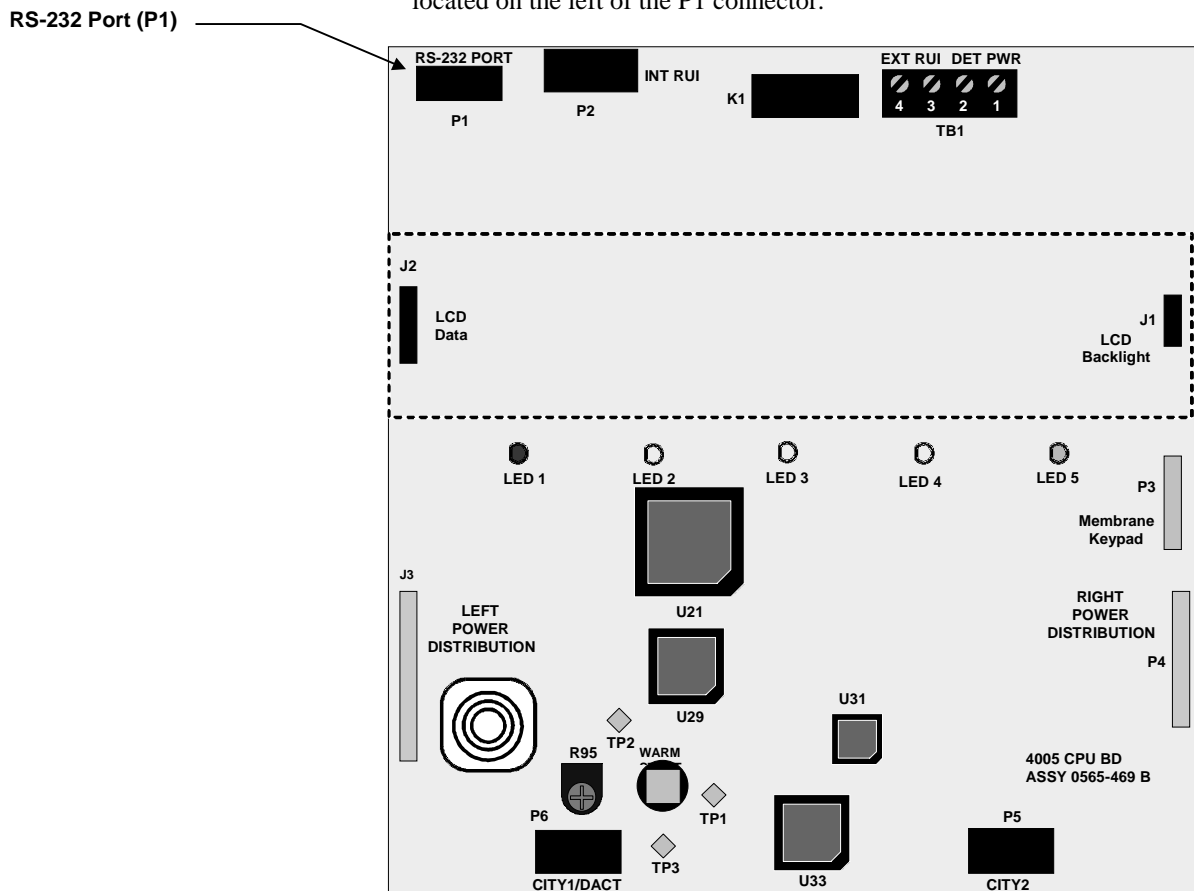

Figure 1. 4005 Base Panel
Use Steps 1 through 4 and Figure 1 to configure the 4005 FACP and PC to use the PC Interface program.
3. Connect the 733-794 download cable from the available COM port of the PC to the RS232 port (P1) of the 4005 CPU (shown in Figure 1). The colored stripe of the cable indicates Pin 1. P1-1 of the RS232 port is located on the left of the P1 connector.